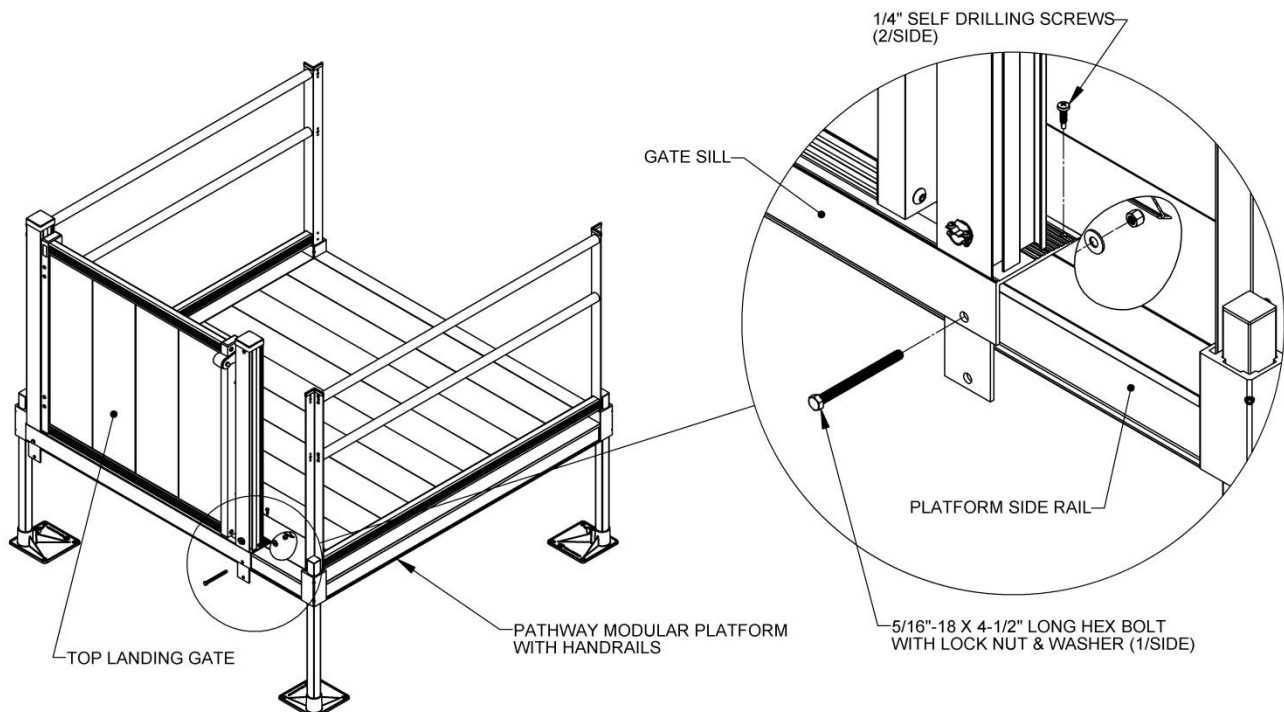

FIG. 7.2
4. Place the gate on the platform and use the upper mounting holes in the gate sill as a template to drill 5/16" or 11/32" holes through the platform side rail (FIG. 7.2).